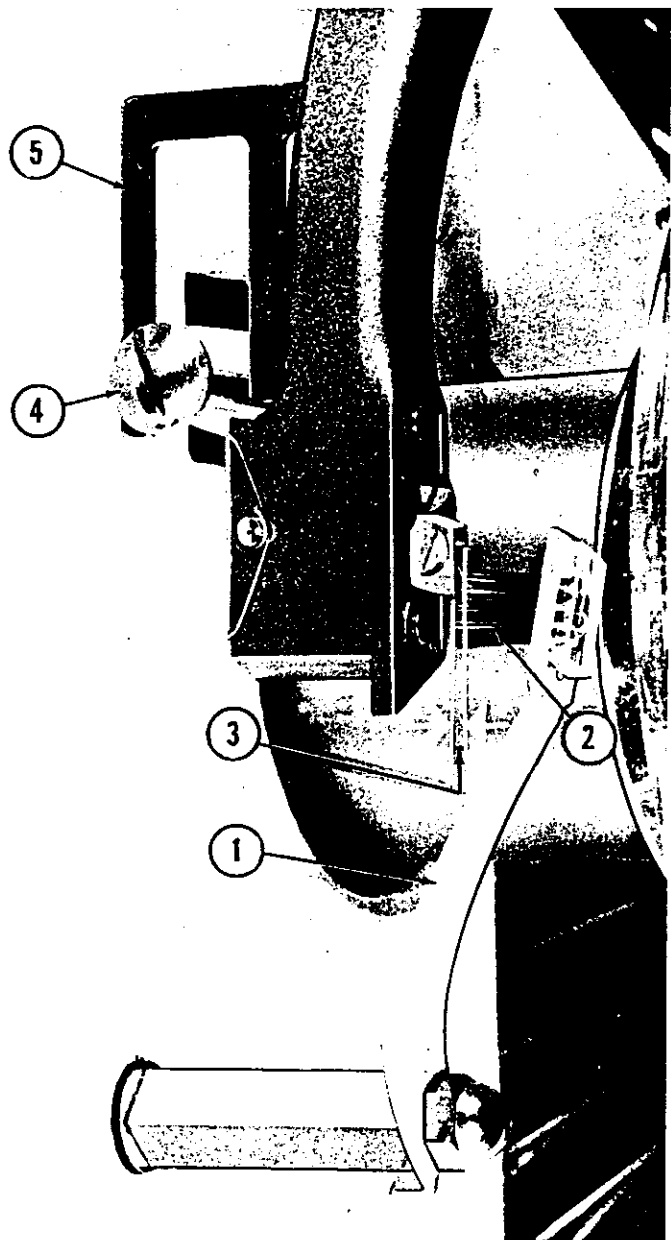

Fig. 98. TONE ARM BRUSH SETTING
(2) After the record guide assembly has been set as described in step (1) and its retracting spring (Item 5) holding the adjusting screw (Item 4) against the support casting, set the safety switch adjusting screw (Item 3) as described in paragraph a, page 45.
a.b. Tone Arm Brush Setting. (Figs. 98 and 99)
(1) This procedure should start with the record changer in its normal "at rest" position and the tone arm should be latched in the recess in the "feed-in adjusting screw".
(2) Set the "brushholder arm" (Item 1, Fig. 98) so that when the arm is actuated, the bristles of the brush will sweep across the needle at a depth of not more than 1/16" beyond the needle point, as shown in Item 3, Figure 98.